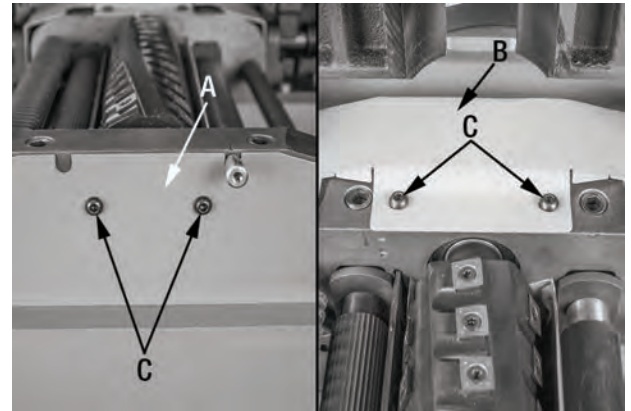

FIGURE 18
2. Remove the front cutterhead access panel (A) Fig.18 and the back access panel (B) by removing the four round head allen screws (C).